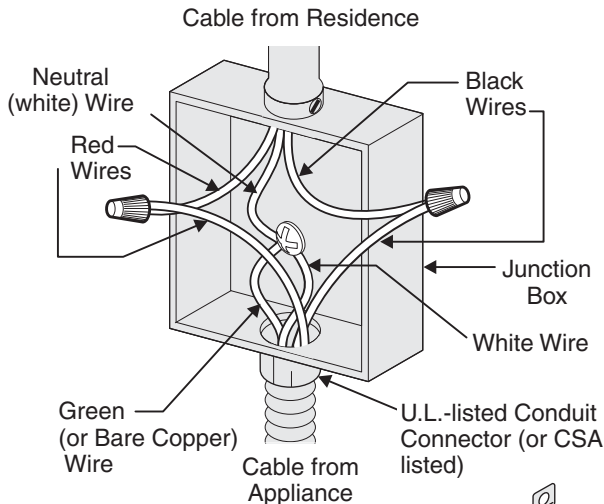

Figure 9
Where local codes permit connecting the appliance-grounding conductor to the neutral (white) wire (see Figure 9):
3. In the circuit breaker, fuse box or junction box (Fig. 9):